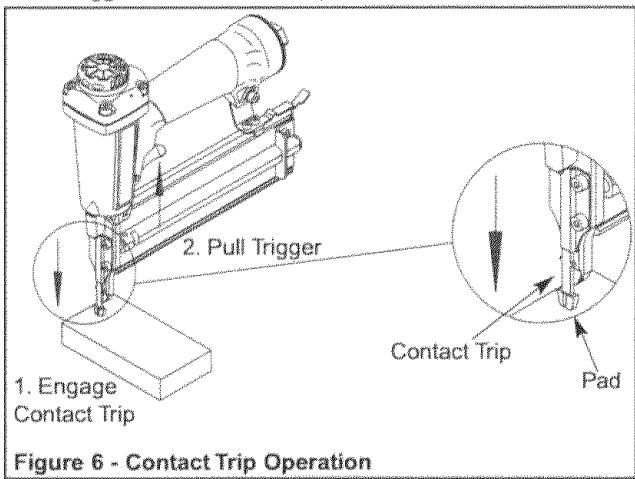

Figure 6 - Contact Trip Operation
Refer to Figure 6.
- The air tool is equipped with a contact trip safety mechanism (see Figure 6) that disables tool unless contact trip is pushed against workpiece. Hold tool handle firmly and press contact trip on workpiece where fastener is to be applied. Pull trigger to drive fastener into workpiece. To fire the next fastener, both the trigger and the contact trip must be released.